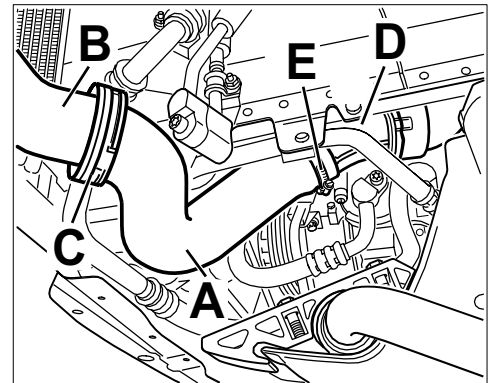

Figure 2
- 5 Disconnect pressure hose (⇒ *Figure 2 -Item A-*) from charge air cooler (⇒ *Figure 2 -Item B-*). To do this, release the spring clamp on the Henn coupling (⇒ *Figure 2 -Item C-*) with a screwdriver and pull the pressure hose off the Henn coupling.
- 7 Remove pressure hose at the pressure pipe on the turbocharger (⇒ *Figure 2 -Item D-*). To do this, open the hose clamp (⇒ *Figure 2 -Item E-*) and pull the pressure hose off the pressure pipe.